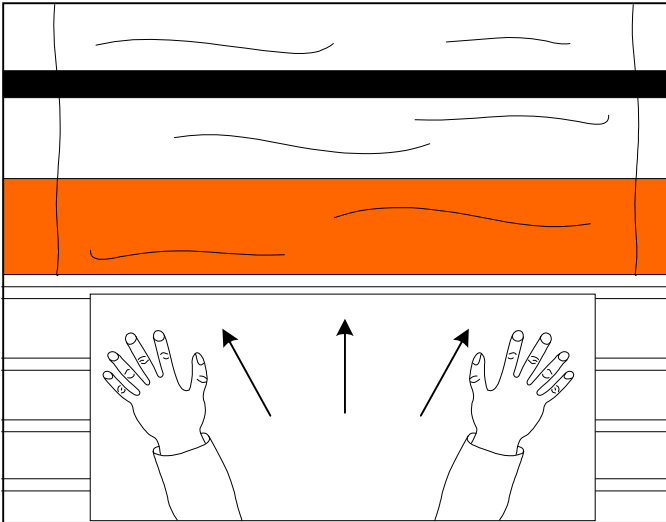

Fig. 30
9. With both hands and an outward force push the image slower than the speed of the rollers into the nip of the heat rollers (Figure 30).